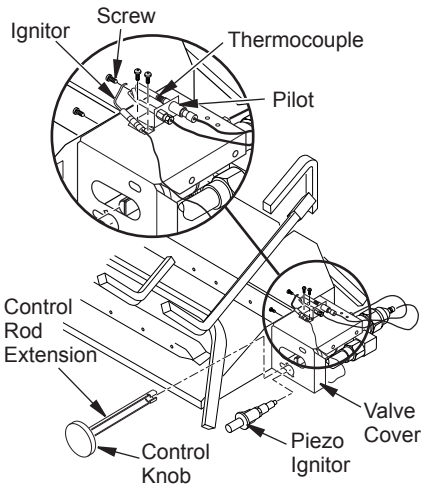

Figure 10 - Installing Cover, Control Knob, and Piezo Ignitor
10. Install thermocouple, pilot, and ignitor onto valve cover as shown in Figure 10. Use the provided screws.